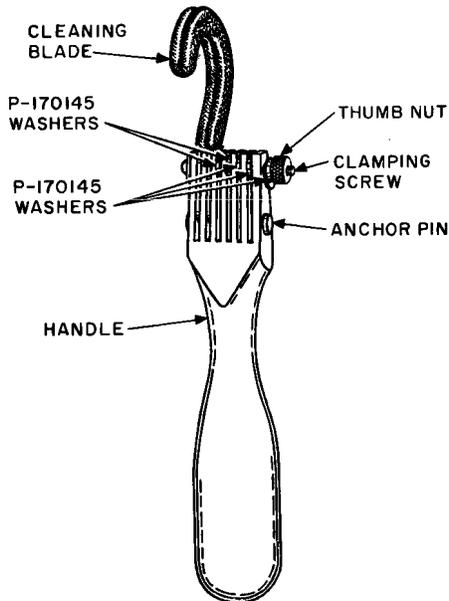

Fig. 10—517B Bank Cleaner Arranged for Cleaning Top Level of Banks on 198-Type Switches
(4) For cleaning banks on 198-type switches, all but two blades of the 517B cleaner are removed as shown in Fig. 10. P-170145 washers supplied with the cleaner are then inserted in the spaces left blank by the removed blades, permitting the remaining blades to be clamped in the handle of the cleaner.